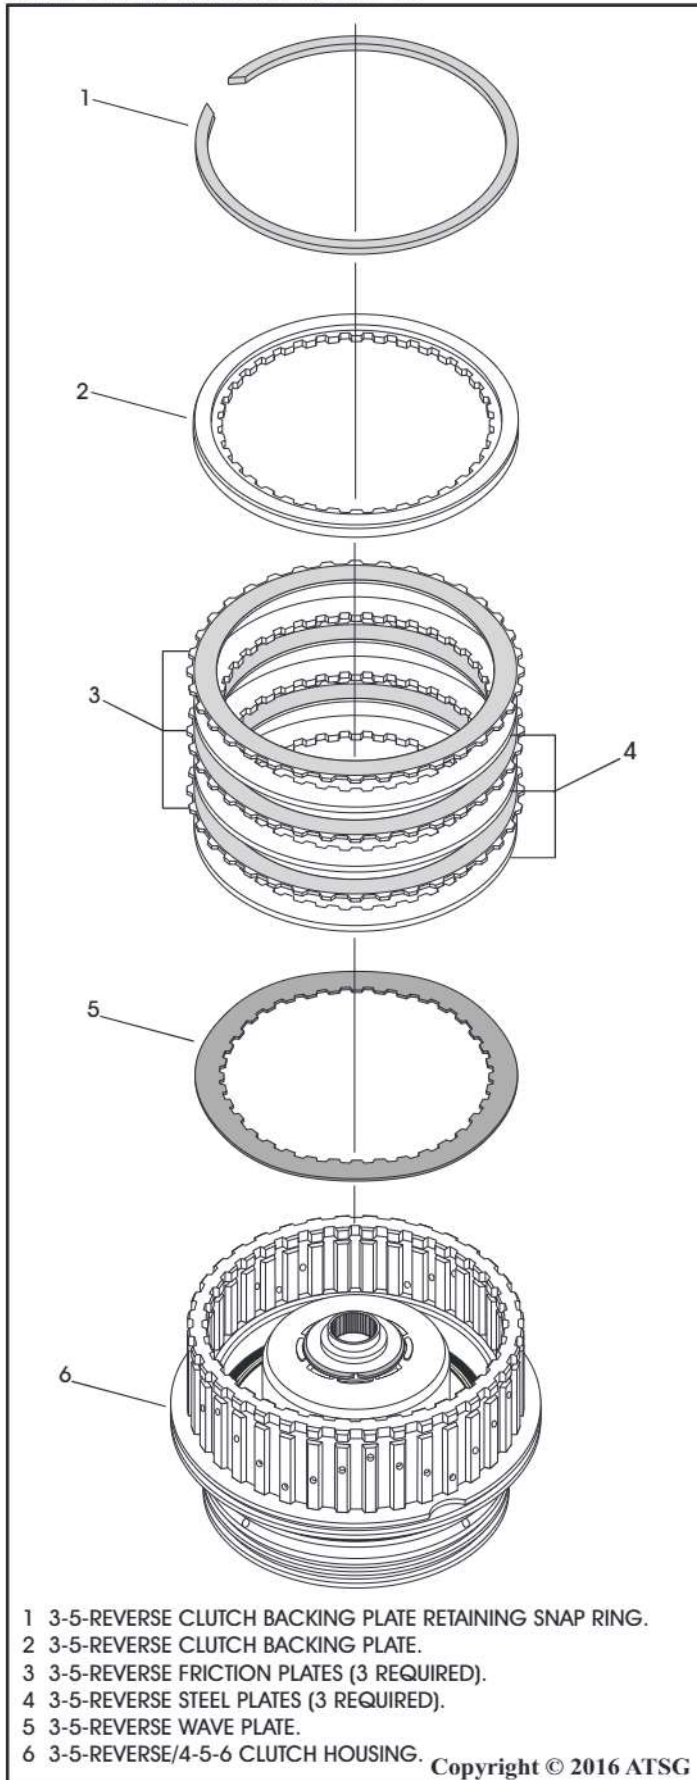

Figure 112
69. Install a new wave plate onto the 4-5-6/3-5-R clutch housing seen in Figure 112.
70. Starting with a steel plate install three 3-5-R friction and three steel plates in an alternating fashion onto the 4-5-6/3-5-R clutch housing as seen in Figure 112.
71. Install the 3-5-R backing plate and then the retaining snap ring seen in Figure 112.